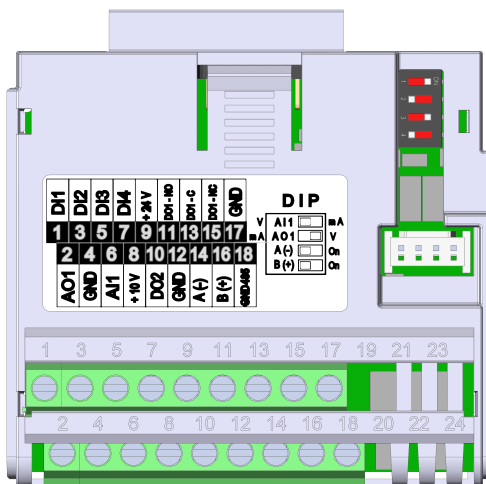

Figure 20.1: Plug-in module CFW500-IO5
The CFW500-IOS plug-in module has only Serial (1) interface through RS-485 port at terminals 14 (A-) and 16 (B+), see Figure 20.1 on page 20-1. See also, the GND485 on terminal 18 is isolated from GND on terminals 17 and 4.